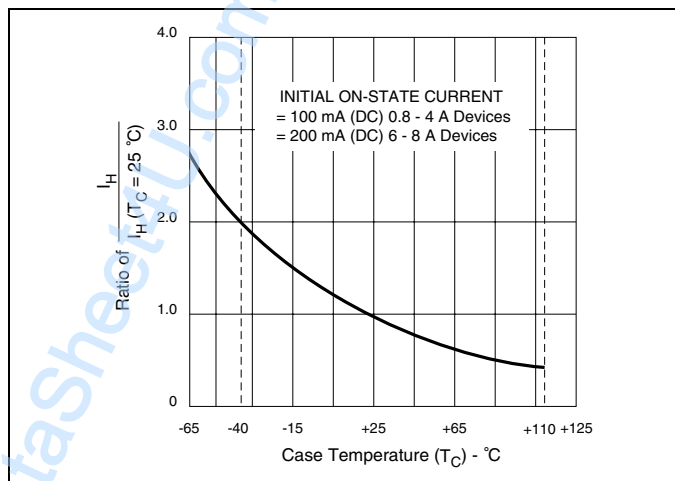

Figure E1.5 Normalized DC Holding Current versus Case Temperature
- (7) See Figure E1.5 for I_H versus T_C.